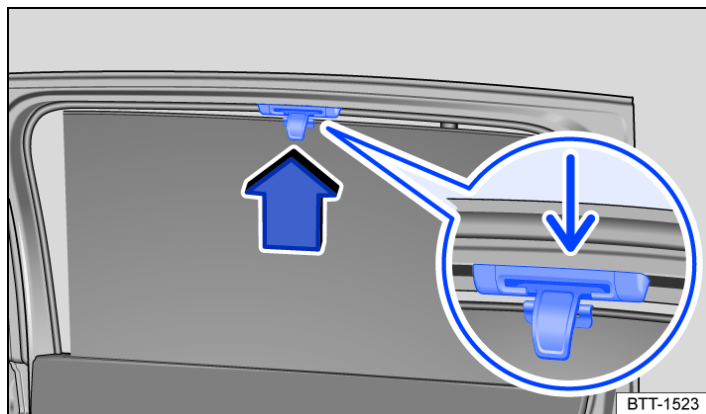

Fig. 1 In the right rear window: sunshade.
1. Pull the sunshade all the way upward by the handle in the direction of the arrow → *fig. 1* (enlarged section).
2. Secure the rod with both eyelets in its holder. Check that the extended sunshade is securely attached in the holder → *fig. 1* (smaller arrow).